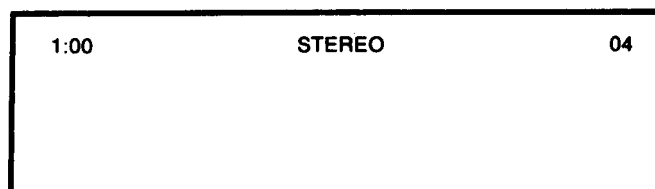

Fig. 3 - Time/Channel Display
18. Adjust the *Horizontal Phase* control (R4306) to center the Time/Channel display as shown in Figure 3.